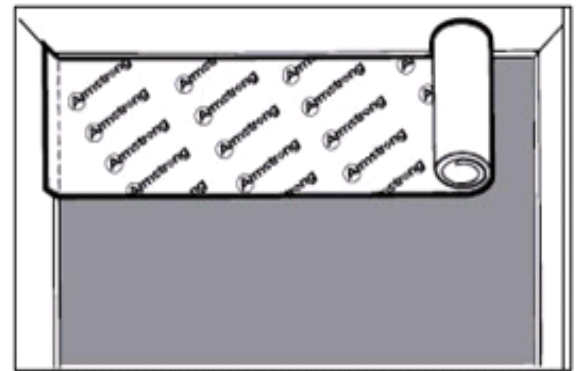

Fig. 3
1. Roll out Armstrong Quiet Comfort or Quiet Comfort Premium Underlayment or Armstrong Moisture Barrier Sheeting along the starting wall logo side up, and cut to length (Fig. 3). Kitchen and bathroom installations require folding the underlayment up the wall 2" (5 cm).